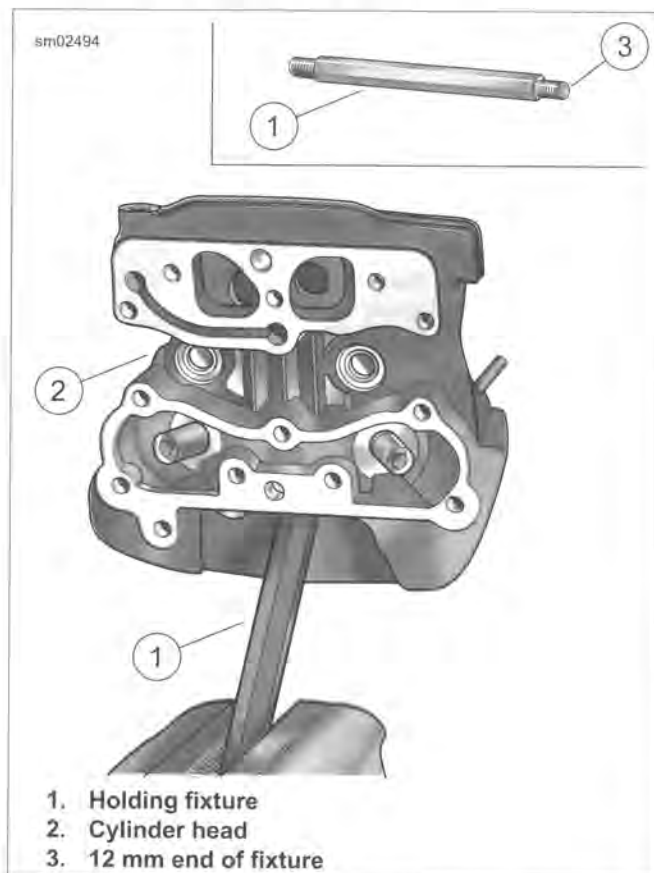

Figure 3-38. Cylinder Head Holding Fixture
3. See Figure 3-38. Secure cylinder head for service.
- a. Thread 12 mm end of CYLINDER HEAD HOLDING FIXTURE (Part No. HD-39786) (1) into cylinder head (2) spark plug hole.